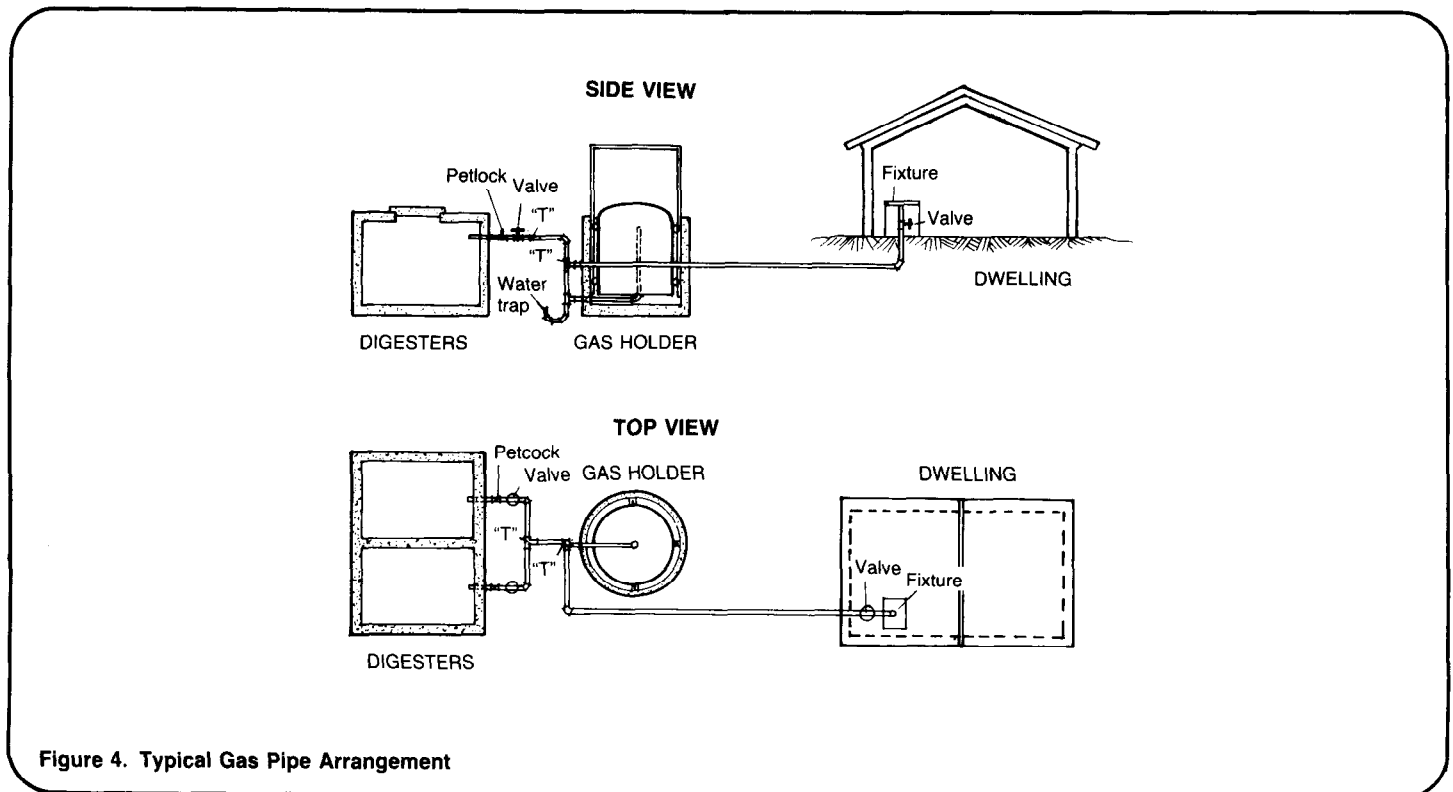

Figure 4. Typical Gas Pipe Arrangement
- 3) Layout of the gas pipe arrangement similar to Figure 4,